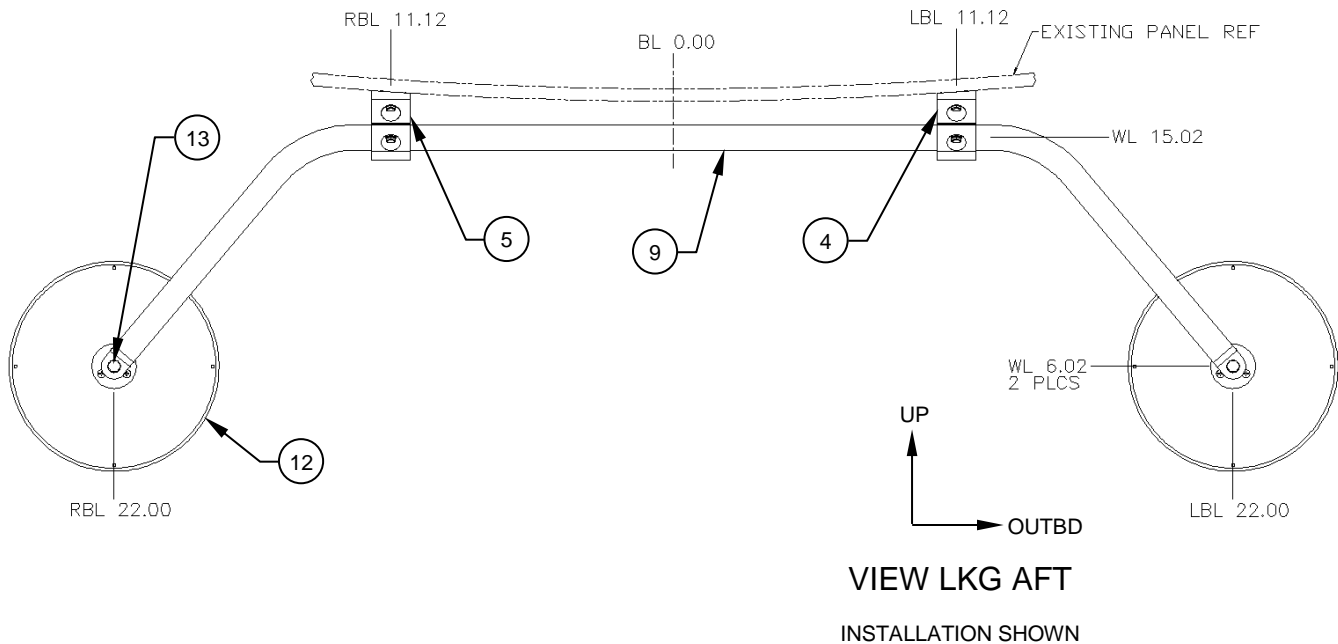

Figure 4
- Install Mirror, Assys (Item 12) on the Crosstube, Assy (Item 9). Reference Figure 4.